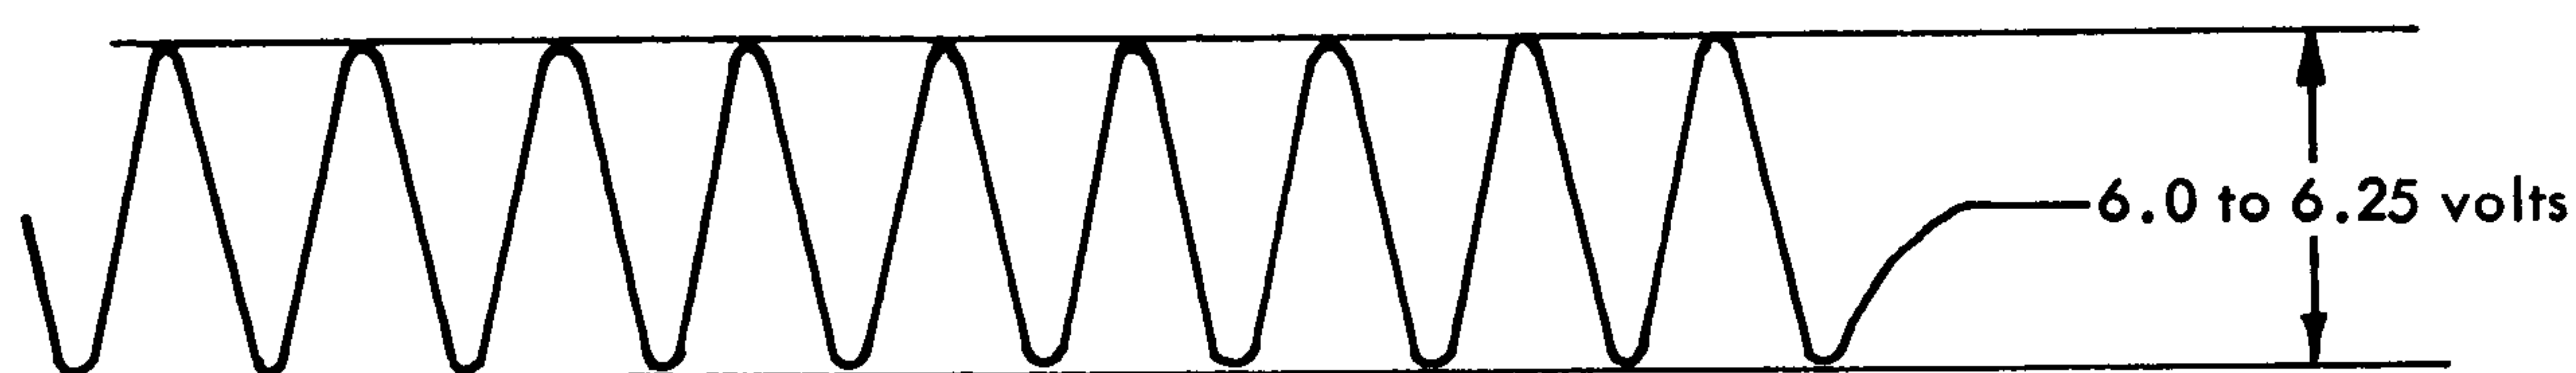

Figure 2-49. Voltage Output of Second Linear Amplifier
3. Adjust the voltage on pins A and F of the linear amplifier (TEH-) at 01A5B12 to 6 to 6.25 volts peak-to-peak by means of the potentiometer on 01A5B09. If this voltage cannot be obtained, the variable gain amplifier (TEV-), the AGC detector (TEQ-), and the two subsequent linear amplifiers (TEH-) should be checked (Figure 2-49).